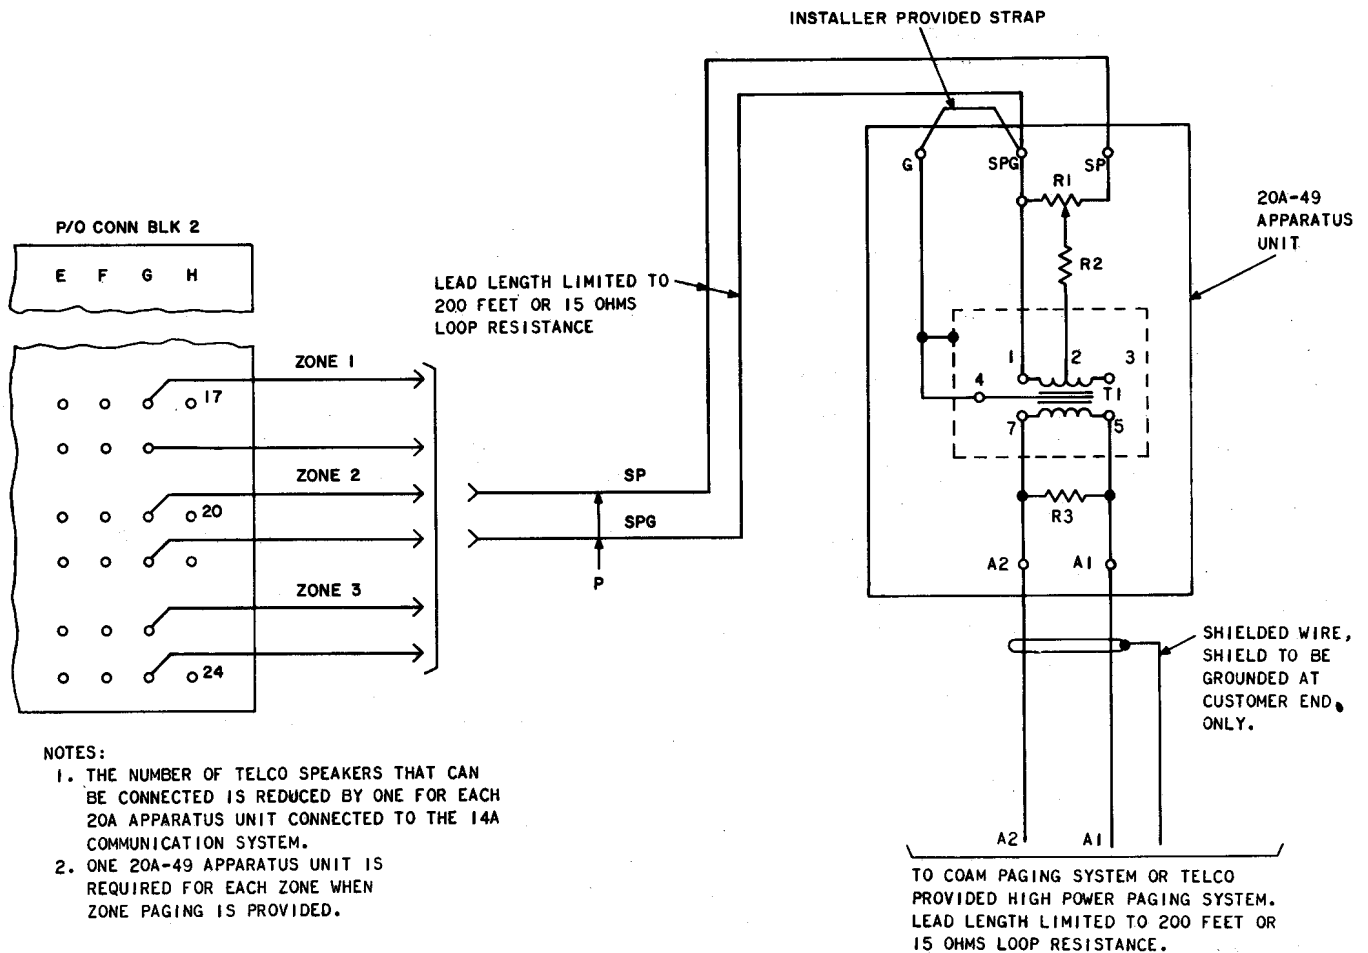

Fig. 34—Connections for 20A-49 Apparatus Unit
4.55 A COAM paging system, or a separate telephone company-provided paging system, is connected to the 14A System through a 20A-49 apparatus unit (Fig. 34). The 20A-49 apparatus unit is mounted externally to the KSU. Where zone paging is utilized, a separate 20A-49 apparatus unit is required for each zone.
- (1) Remove cover from the 20A-49 apparatus unit.
(2) Mount the 20A-49 apparatus unit within 200 feet of the KSU (wherever the customer desires).
(3) Connect the apparatus unit to the KSU as shown in Fig. 34. Wiring should be run separately and not be a part of the voice cable.
(4) Have customer connect their paging system to the 20A-49 apparatus unit, using shielded wire, as shown in Fig. 34.
(5) Replace cover on the apparatus unit.